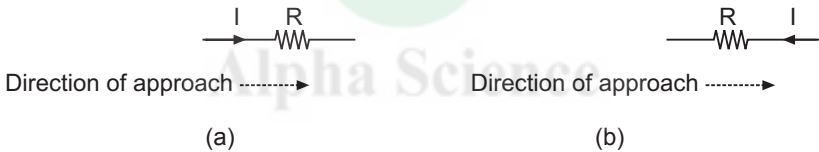

Fig. 1.25
- (i) If the current flows along with the direction of our approach as shown in Fig. 1.25(a) then there is a fall in potential, which is taken as negative.
- (ii) If the current flows in opposite direction of our approach as shown in Fig. 1.25(b) then there is a rise in potential, which is taken as positive.